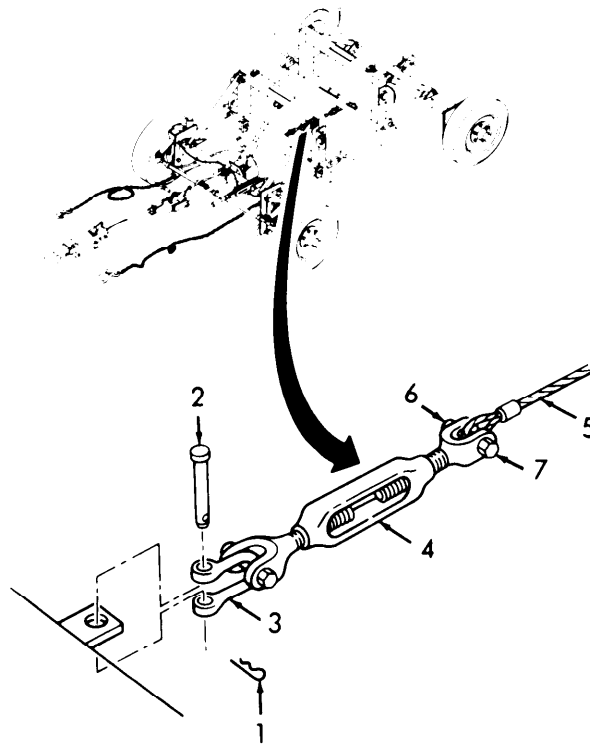

Figure 3-9. Turnbuckle, Removal.
- (1) Remove turnbuckle chain shackle assembly (3, Figure 3-9) as follows:
- (a) Remove cotter pin (1) and pin (2) from shackle (3).
- (b) Retain shackle (3) for later use.
- (2) Remove turnbuckle assembly (4) from cable (5) as follows:
- (a) Remove nut (6) and bolt (7) from turnbuckle (4).
- (b) Remove turnbuckle assembly (4).